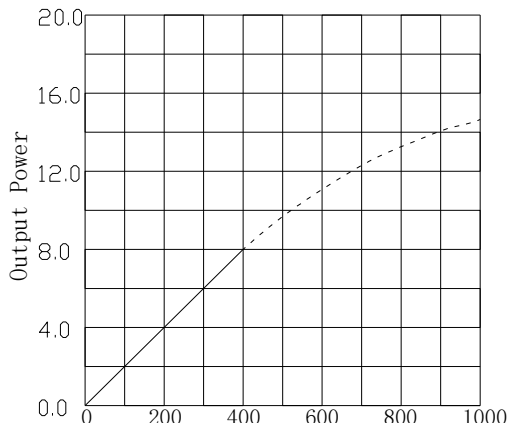
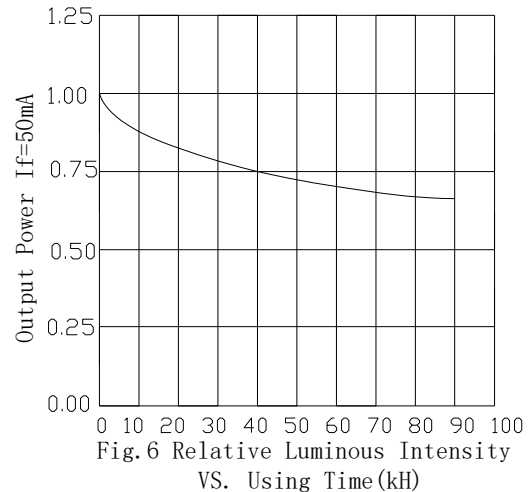

Fig.5 Relative Luminous Intensity VS. Forward Current I_{FPM} (mA)
Fig.6 Relative Luminous Intensity VS. Using Time (kH)
- 5) Use LEDs with stand-off (Fig.5) or the tube or spacer made of resin (Fig.6) to position the LEDs.